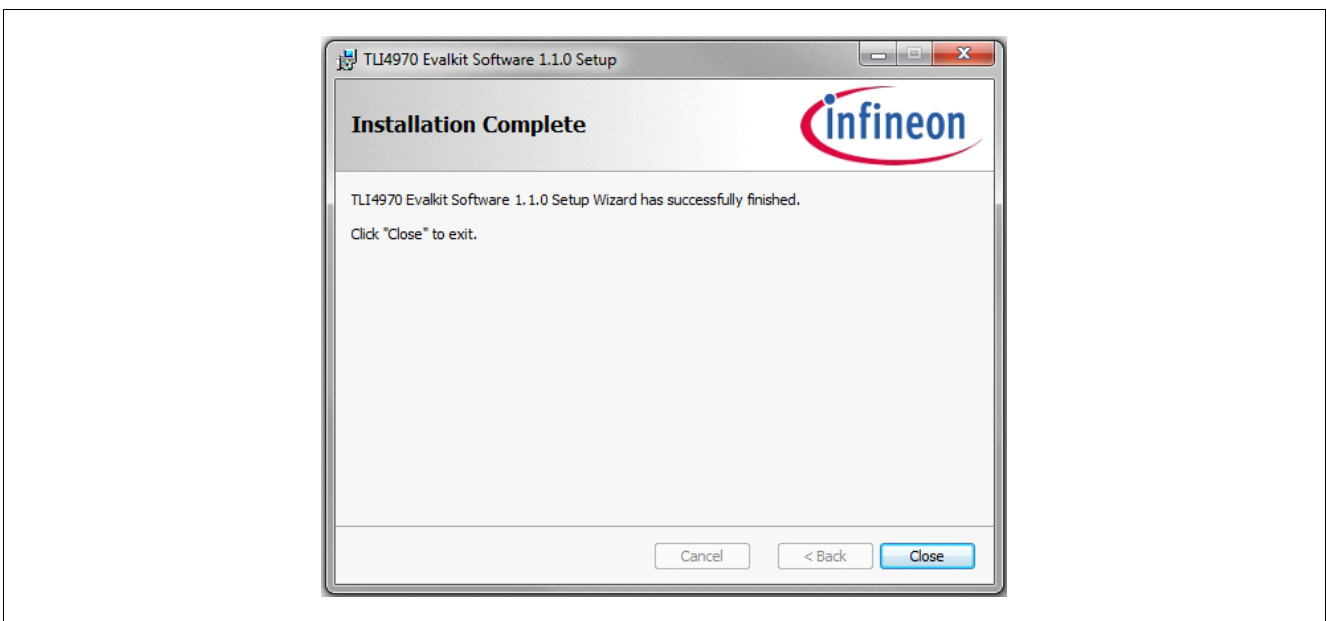

Figure 7 EvalKit Installer - Installation Complete
6. After the installation has completed the installer can be closed by clicking the '**Close**' button, see Figure 7.